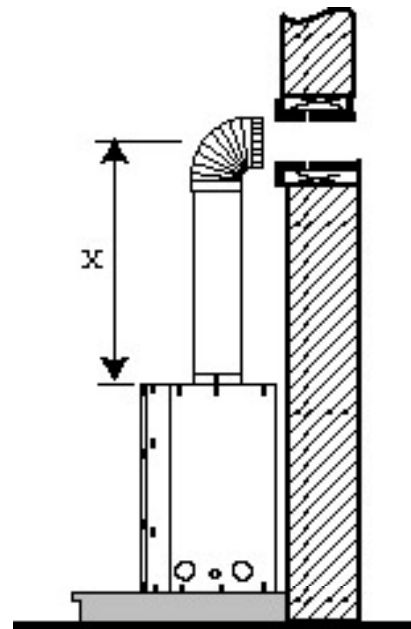

Fig. 24
Place fireplace into position. (Fig. 24). Measure the vertical height (X) required from the base of the flue collars to the centre of the wall opening.